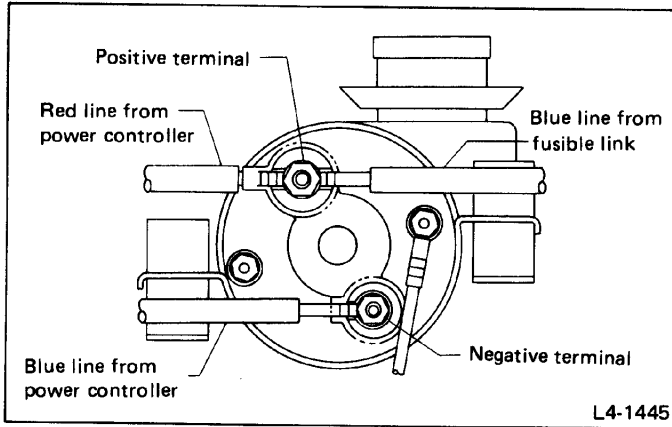

Fig. 219
- 2) Connect harnesses as shown in Figure 219.